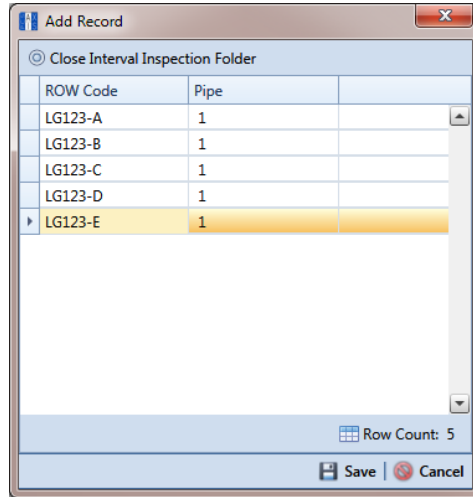

Figure 6-5. Add Record
- 5 Click the **+** **Add** button to open the *Add Record* dialog box (Figure 6-5, page 199).